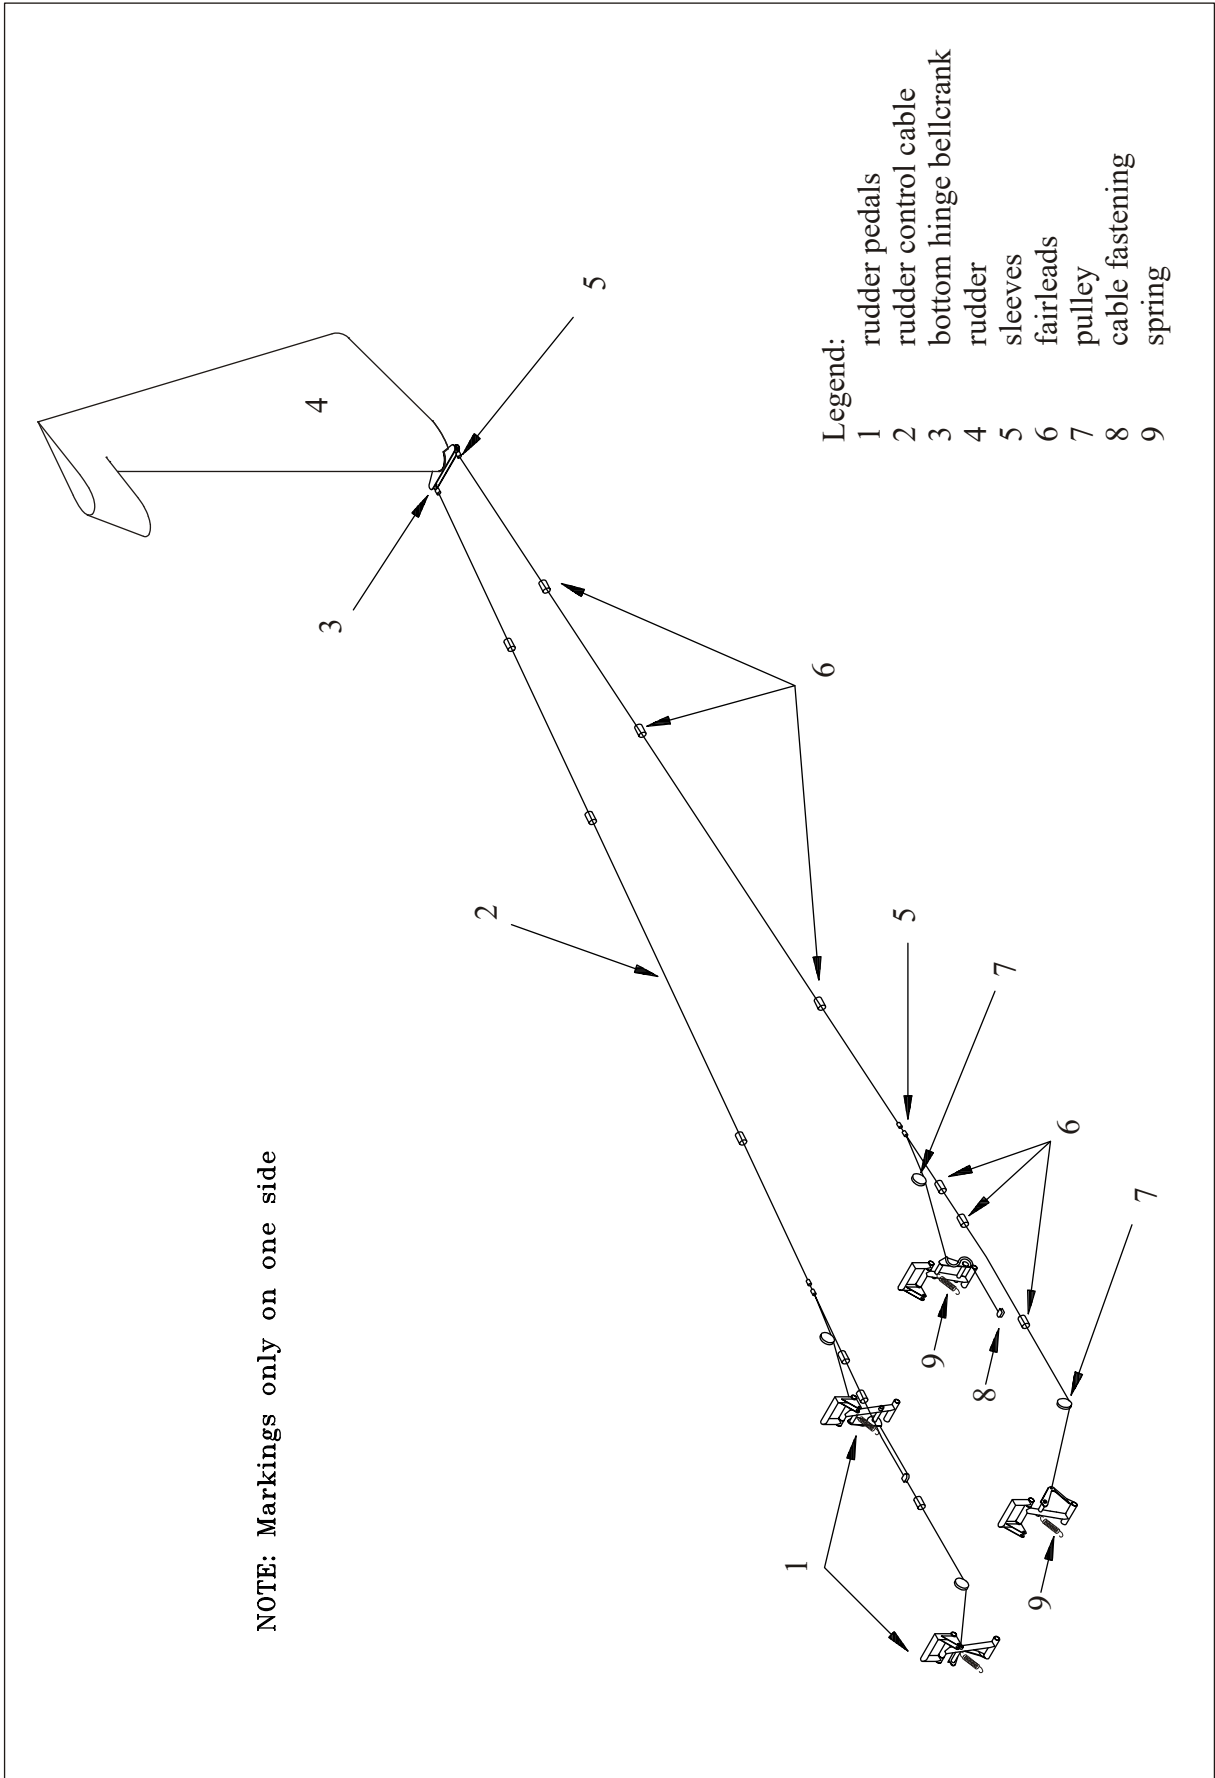

Figure 14
(Refer to figure 14) The rudder pedals (1) are connected via a cable system (2) to the bottom hinge bellcrank (3). The cables are guided by fairleads (6). Springs (9) keep the cables under tension when they are not operated. As an option the rear pedals are electrically adjustable. The rudder (4) is mounted at three points in spherical bearings pressed into a aluminium hinge resp. into aluminium hinge arms. For lightning protection reasons each hinge (arm) is grounded to the corresponding attachment bracket at the rudder by bonding leads. A travel stop plate is located at the bottom hinge bracket. A second safety stop is located at the rudder pedal bearing having the only purpose of protecting the lower brake system fitting in case of rudder cable failure.
- 2 Secure the rudder (4, Figure 14) in 0°-position.
- 3 Mount the pre-assembled eye end of the longer control cable to the LH cable fastening (8).
- 5 Thread the cable through the "S"-shaped tube at the pedal and the pulley (7).
- 6 Adjust rear rudder pedals (1) in rearmost position.
- 8 Slip 2 NICOPRESS (National Telephone Supply Co., Cleveland Ohio) 18-3-M or 28-3-M sleeves (5) and 100 mm 771095 shrinking sleeve on the control cable.
- 9 Thread the free end of the control cable through the rear fairleads (6) and the hole in the fabric to the tail.